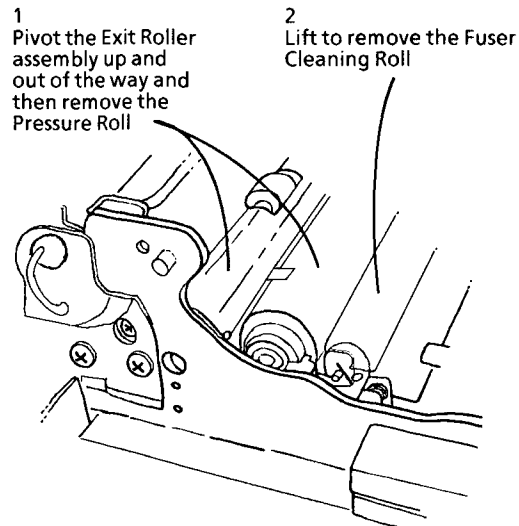

Figure 1. Removing the Fuser Cleaning Roll
3. Remove the Fuser Cleaning Roll (Figure 1).